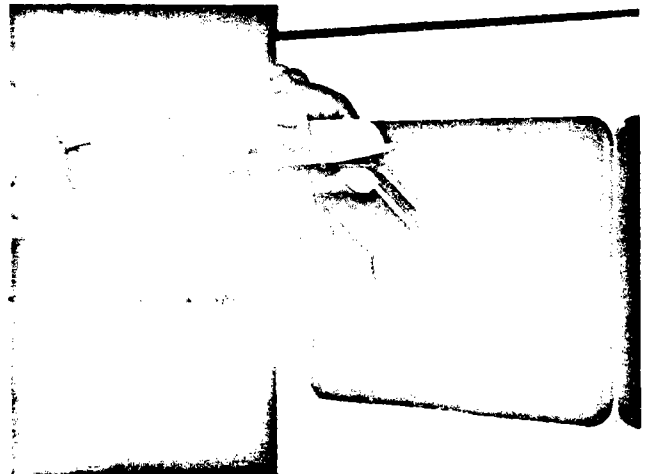

Figure 8
9. Authorized personnel may open the door while the starter unit is energized. This is accomplished by defeating the mechanical interlock between the operating mechanism and the unit door. A clockwise quarter turn of the slotted head screw located above operating handle will allow the door to open. See Figure 8.